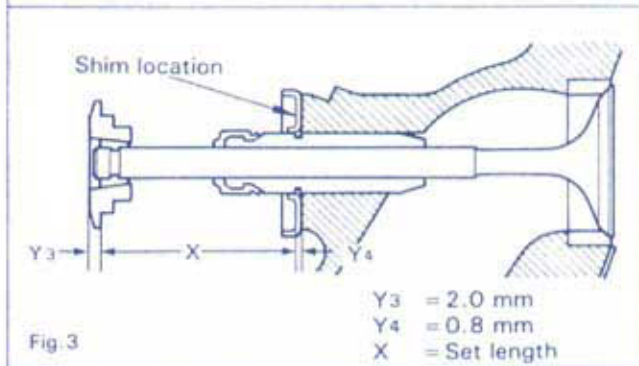

Fig.3
- Calculate the valve spring set length X, as shown in the Fig.3.